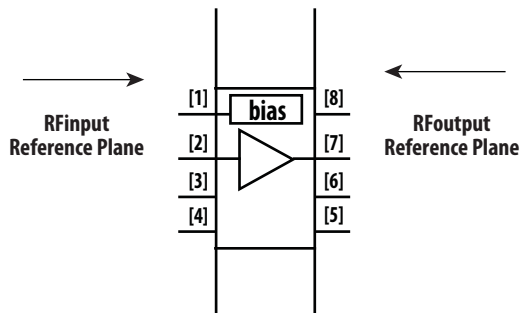

Figure 32
2. Scattering and noise parameters are measured on coplanar waveguide made on 0.010 inch thick ROGER 4350. The input reference plane is at the end of the RFinpin and the output reference plane is at the end of the RFoutput pin as shown in figure 32.